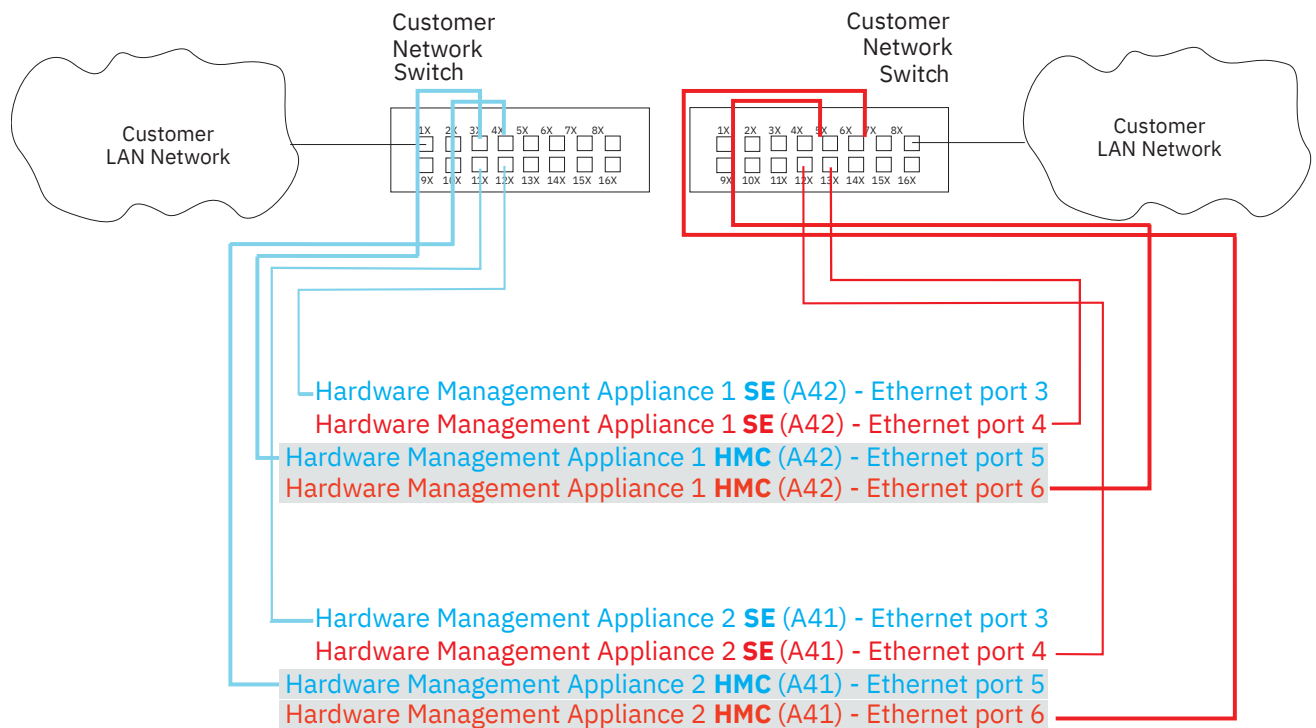

Figure 33. Two-switch configuration with Hardware Management Appliance (FC 0355)
If the Hardware Management Appliance feature (**FC 0355**) is ordered on the 9175, the dual 1U servers function as a Support Element (SE) and a Hardware Management Console (HMC). See Figure 33 on page 133 for network connection requirements.